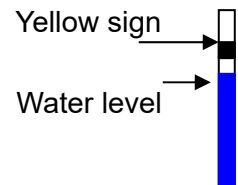

Figure 1
3. Pouring the water (DISTILLED WATER ONLY) into the water reservoir, until the water level nears the "FULL" level signs at outside cover. **Other way you can see water level below yellow sign of exhaust pipe at outside cover (See figure 1)**